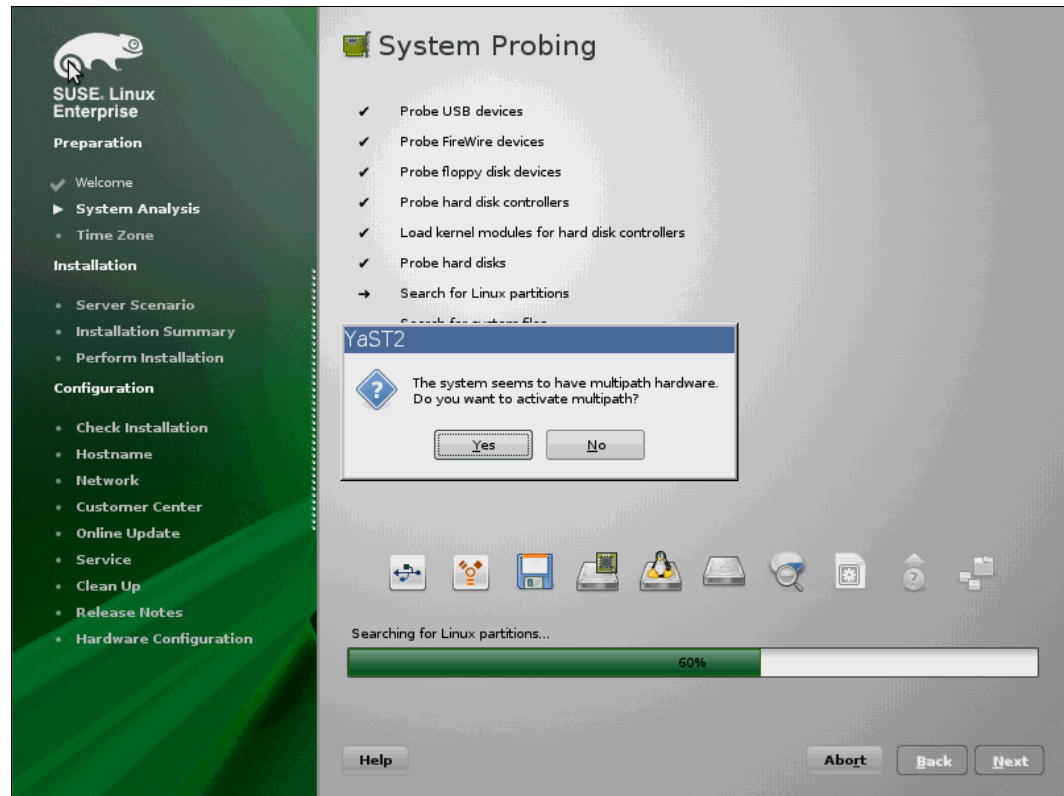

Figure 9-42 System Probing with multipath question
9. In the System Probing window (Figure 9-42), you will be asked to activate multipath in case you have more than one path to the LUN. Click **Yes**.